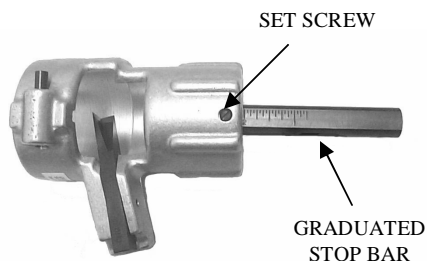

Fig. 3
**Step 3.** (Fig. 3) To adjust the stop bar for desired length of conductor exposure, loosen set screw located on the end of the tool body directly above the stop bar. Adjust the stop bar to the desired length of insulation to be stripped and tighten the set screw.